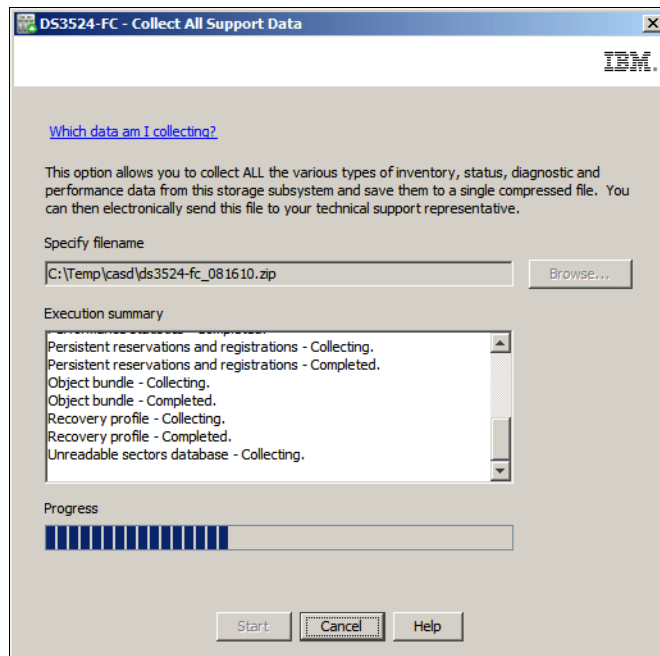

Figure 14-6 Collect All Support Data - data collection in progress
3. The Collect All Support Data window will display a progress bar while the data is being collected as shown in Figure 14-6.